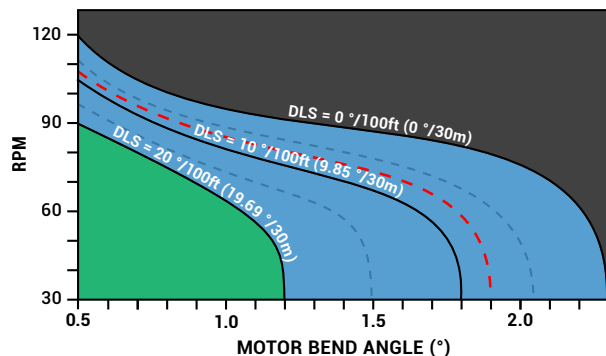

Figure 2: Illustration of Example 2
2. **Adding a DLS Curve** - A hypothetical, 8°/100 ft, curve is drilled entirely while sliding, with a 1.9° bend in the motor. First, a DLS curve for 8°/100ft must be drawn on the figure. Understanding that 7.5°/100 ft DLS curve would be in the middle between the 5°/100 ft dashed curve and the 10°/100 ft solid curve, an 8°/100 ft curve can be placed slightly to the left of where the 7.5°/100 ft curve would go (refer to red dashed curve in Figure 2). Once the DLS curve is determined, the same procedure that was used in Example 1 can be followed to determine the RPM limits.